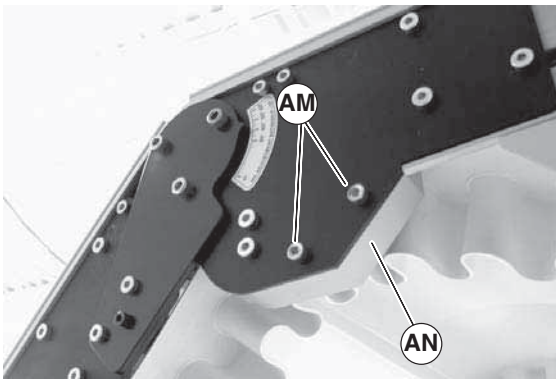

Figure 84
2. Remove screws (Figure 84, item AO) and remove roller bearing (AP).